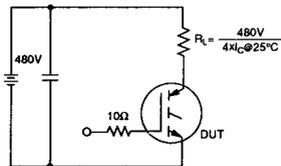

Fig 12b. Pulsed Collector Current Test Circuit
- ① Repetitive rating; $V_{GE} = 20V$, pulse width limited by max. junction temperature (See figure 12b).